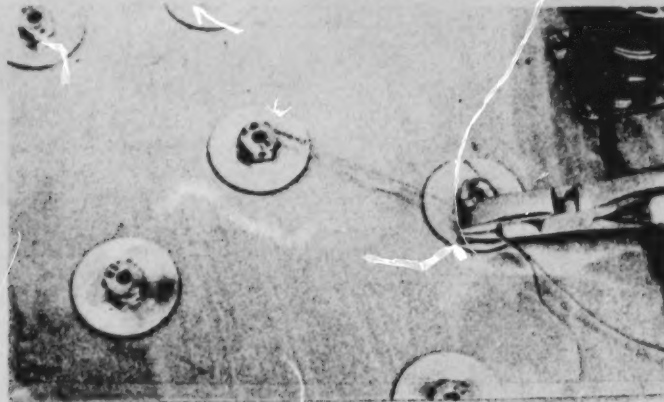

Figure 12. Determine Length of Wire between Bolt heads.
6. Grip the two strands of wire with the safetywiring pliers. Grip at a point approximately 1/16 inch longer than the distance to the next bolt head (figure 12). To lock the pliers closed, squeeze the handles together tightly enough so that the locking button can be pushed in. Now, release your grip slightly and the pliers should remain locked.